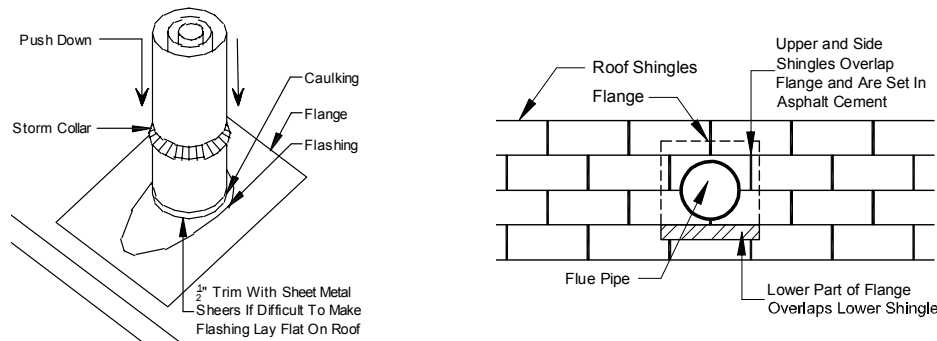

Figure 103. Roof flashing and shingle installation around chimney
5. **Complete shingles.** Cut shingles in successive courses to fit around the pipe and embed them in asphalt cement where they overlap the flashing. Secure shingles with roofing nails through flashing and apply asphalt cement over nail heads. The completed installation should appear as shown in **Figure 103**, with the lower part of the flange overlapping the lower shingles and the side and upper shingles overlapping the flange.